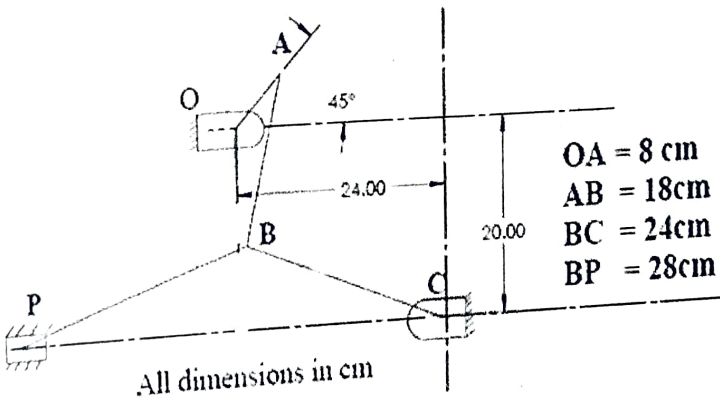

Fig. 1
- List the inversions of the single slider mechanism and explain the working of the oscillating cylinder engine mechanism. (05)
- Compare Ackermann and Davis steering gear mechanism. (05)
- Compare involute and cycloidal gear teeth profiles. (05)
- Compare open and cross belt drive belt arrangements. (05)
- Derive an expression for Coriolis component of acceleration. (05)
II a. The mechanism shown in fig.1 in which crank OA rotates in clockwise direction at uniform speed at 200 rpm. Determine the velocity and acceleration of slider 'P'. (12)